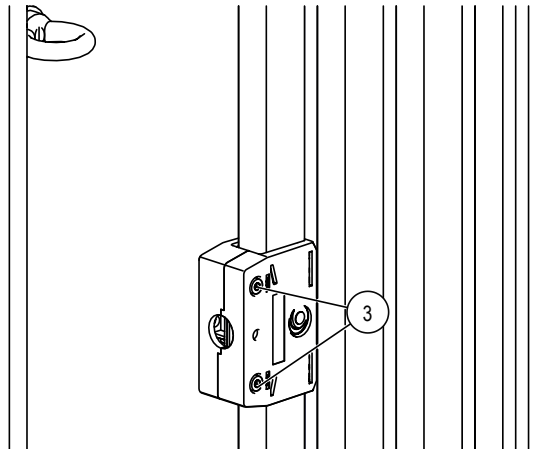

Fig. 39: Tighten cylinder screws M4 x 22 (Pos. 3)
- Tighten the loosely mounted cylinder screws M4 x 22 (Pos. 3) of the housing halves to the specified torque (SW 4, torque: **2.5 Nm**) (see Fig. 39).